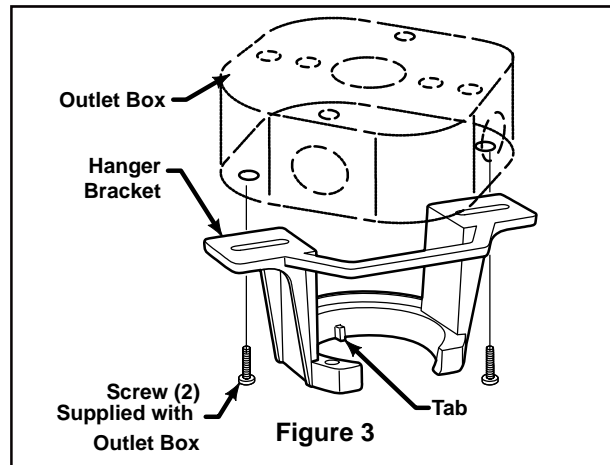

Figure 3
- Securely attach the hanger bracket to the outlet box using the outlet box screws supplied with the outlet box. (Figure 3)
(Figure 3)